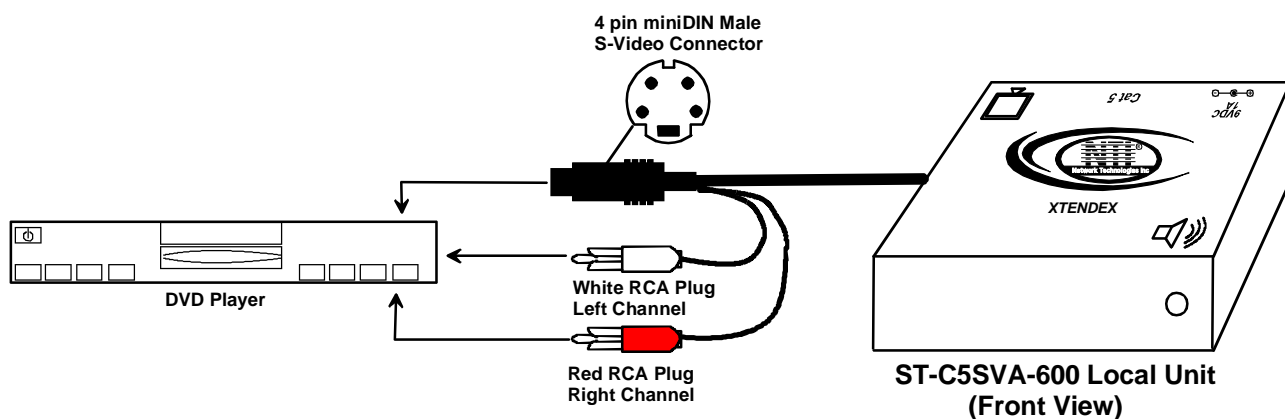

Figure 5- Connect the S-Video Local Unit to the s-video/audio source
1. Plug the cables of the Local Unit into the back of the s-video source. (See Fig. 5.)